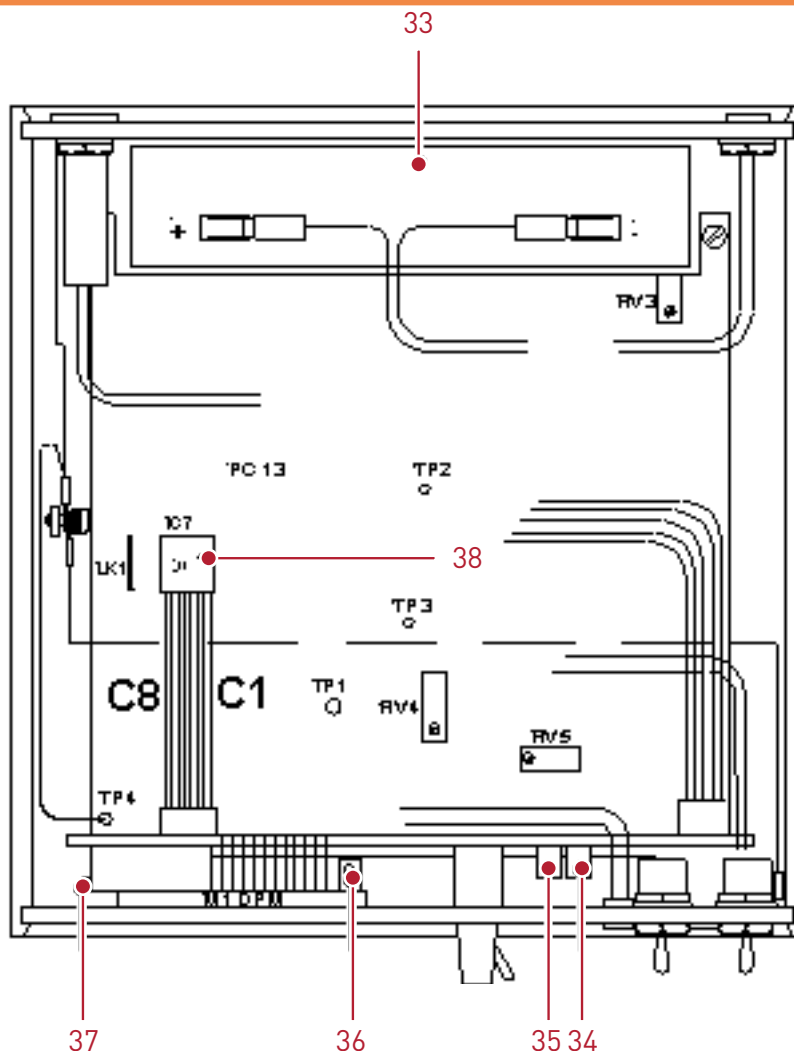

Figure 10. Mag-01H: internal view for cable replacement.
Key to Figure 10
See Figure 10 for battery location.
See Figure 10 for reference. The electronics in the magnetometer unit must be exposed to perform this alteration as a potentiometer inside the casing must be adjusted.
5. Adjust the x10 offset potentiometer (item 35 in Figure 10) to produce a displayed magnetometer value of 00000.
7. Adjust x1 offset potentiometer (item 34 in Figure 10) to produce a value of 0000.